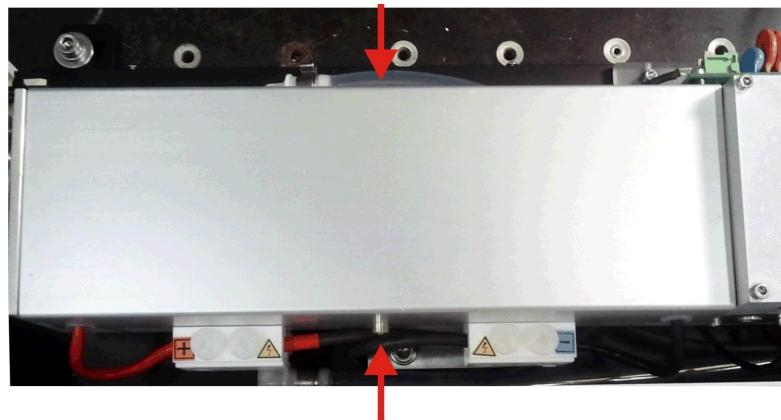

Figure 10 Laser chamber compartment cover
4. Unscrew two fixing screws and remove the laser chamber compartment cover (see Figure 10, marked with red arrows).